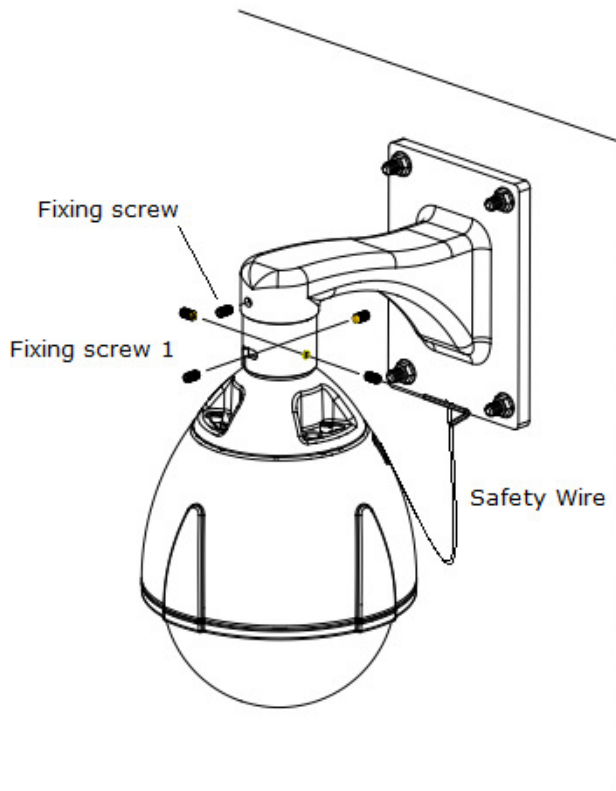

Figure 3
- H) Use torx wrench to secure the attached fixing screw 1 to the connector ring. Use allen wrench to secure the fixing screw to the bracket. This allen wrench is supplied in the bracket (Figure 3)